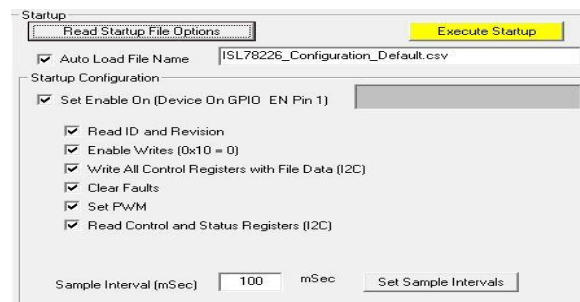

Figure 34. Execute Startup
- (3) The file contents set the option buttons in the **Startup Configuration** panel shown in Figure 34.